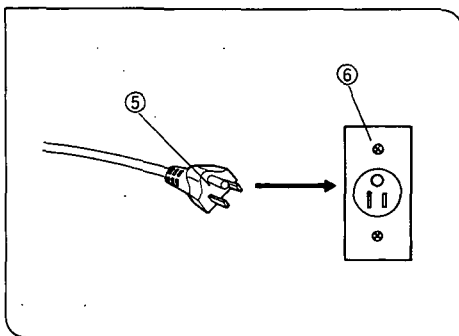

Fig. 12
3. Plug the power cord plug ⑤ into a wall outlet ⑥. (Fig. 12)